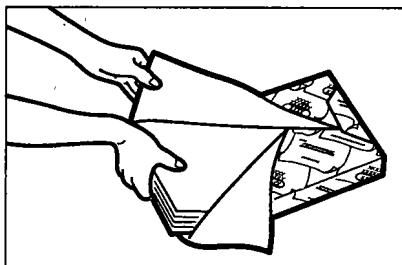

Figure 1-27
- 2) Take out copy paper from its package as shown in Figure 1-27.
- 3) Turn over the paper, and place it butted against the right side of the cassette; the face of the paper showing in Figure 1-27 should be the bottom of the stack.